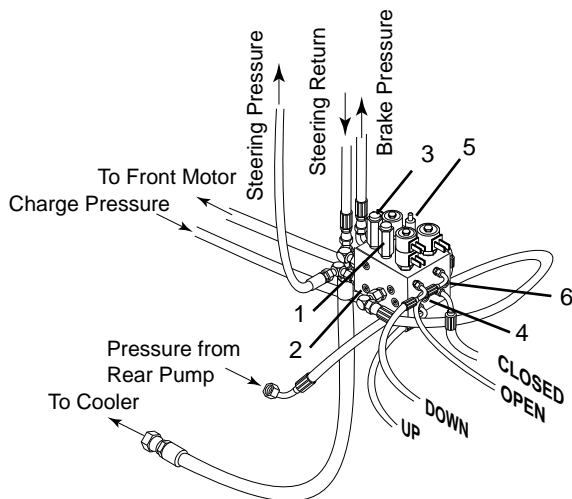

Figure 34 Hydraulic Control Assembly
3) If the pressure is low, remove cap from top of relief valve using vise grips (figure 34 Ref 1) and ad-
3) If the pressure is low, remove cap from top of relief valve using vise grips (Figure 34 Ref 3) and adjust set screw clockwise using a 1/4" allen wrench. If pressure is high, adjust set screw counterclockwise.